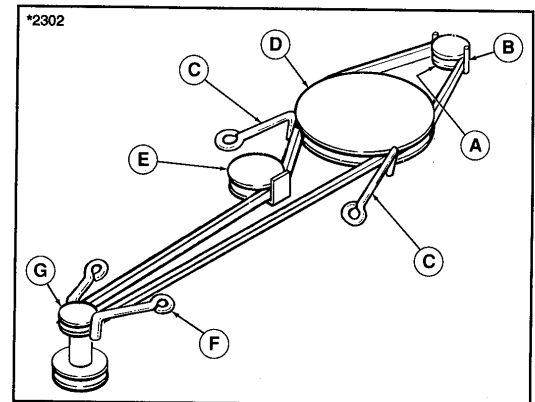

Figure 32.
6. Loosen nut securing rear idler pulley (A, figure 32) and slide pulley forward to release belt tension. Belt guide (B) will be loose.
7. Loosen belt stops (C) on transmission drive pulley (D).
9. Remove belt from idler pulley (E).
10. Loosen the belt stops (F) from engine pulley (G).
11. Remove the belt from the engine pulley (G).
12. Install the belt in reverse order of removal procedure. The belt pattern is shown in figure 32.